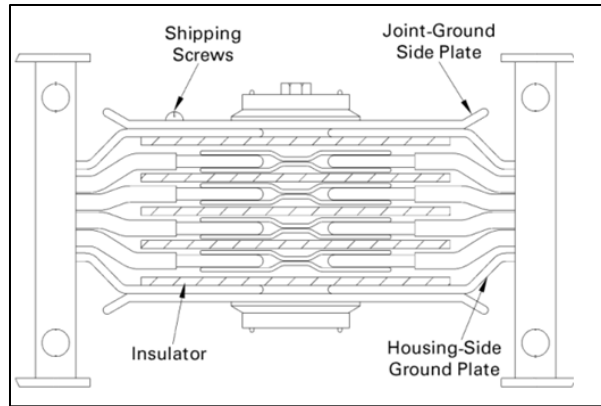

Figure 5. Busbars interweaving with the joint
- Raise or lower the busway so that the bus bars interweave the insulators as shown in Fig. 5. The busway should be adjusted until the flange mounting plate is flush against the switchboard.